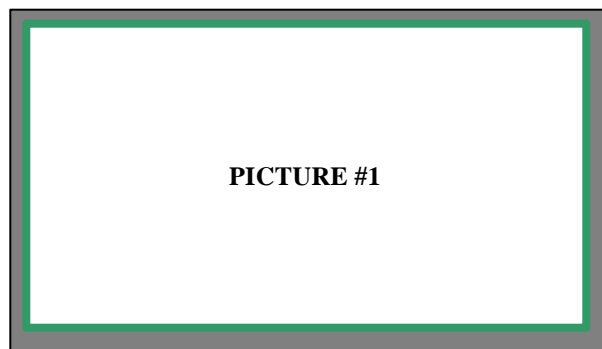

Figure 2.1.2a
**STEP 1)** Selecting "FULLSCREEN" from the "REVIEW" menu allows the user to view all the pictures contained in the cameras memory in a FULL PAGE/SCREEN format. i.e. 1 picture per page/screen (see Figure 2.1.2a below).